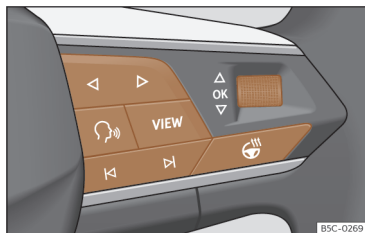

Fig. 10 Right side of multifunction steering wheel: buttons to the menus and informative indications on the instrument panel (depending on the version).
As long as a priority 1 >>> page 24 warning is active, it will not be possible to access any menu. Some warnings can be confirmed and hidden with the **OK** button of the multifunction steering wheel >>> **Fig. 10**.
- If a message or vehicle symbol is displayed, press the **OK** button >>> **Fig. 10**; several times if necessary.